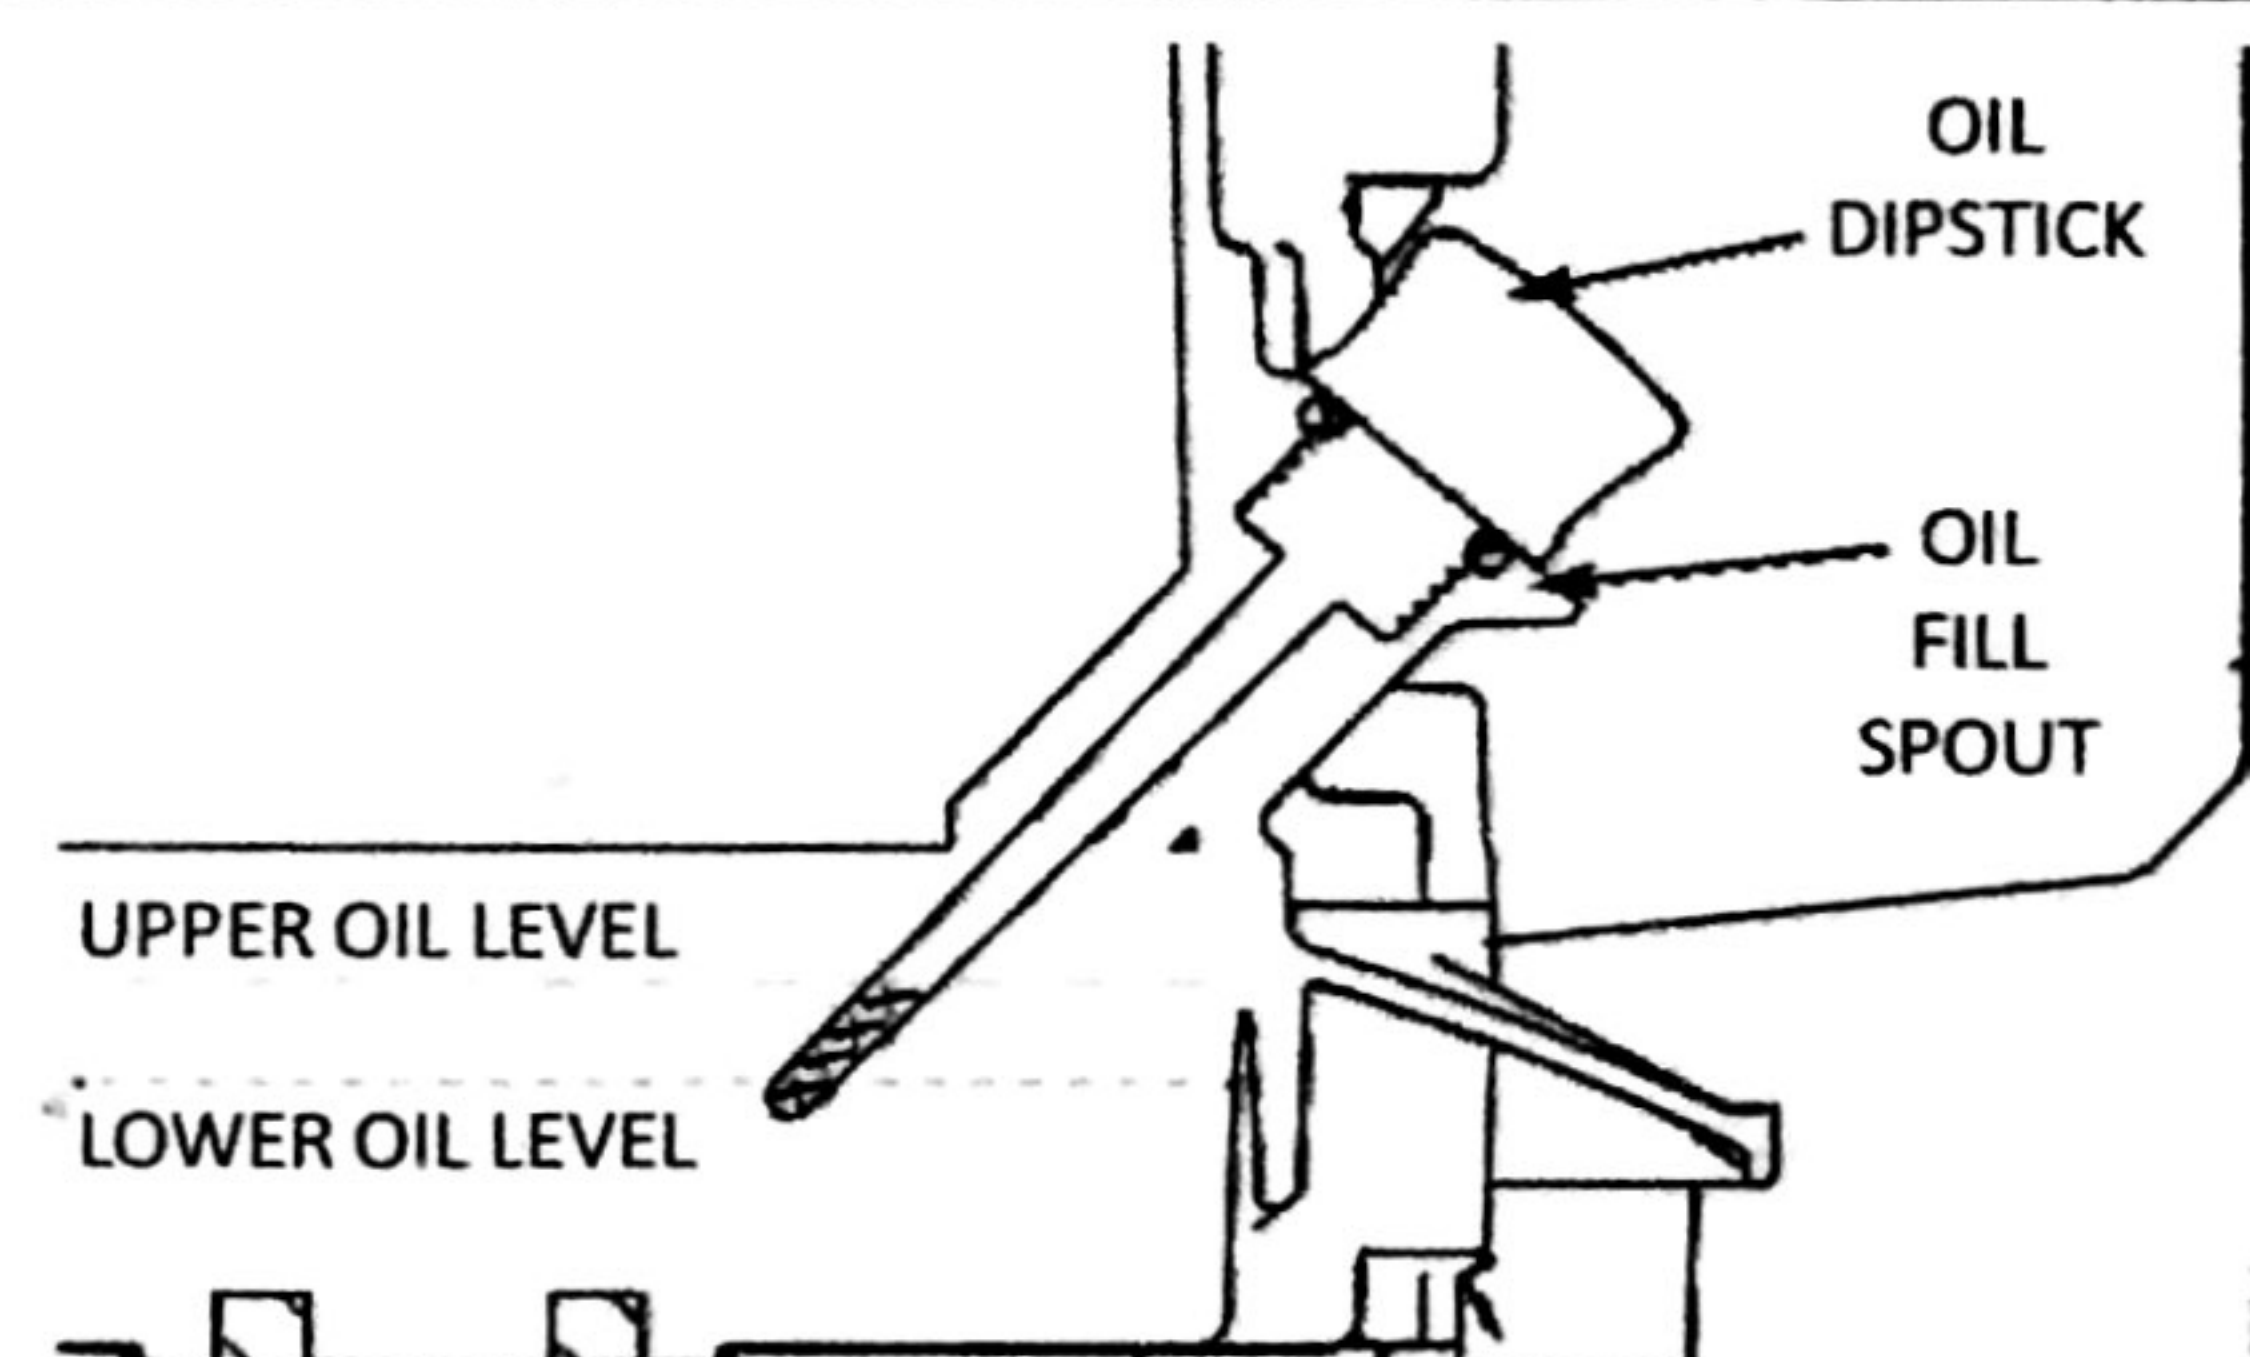

FIGURE 8: Dipstick And Oil Levels.
3. Tip engine back onto a level surface and fill with appropriate oil to the top of the marking on the dipstick (SEE FIGURE 8). DO NOT OVERFILL. For proper oil capacity and specification, see the engine manufacturer's instructions.